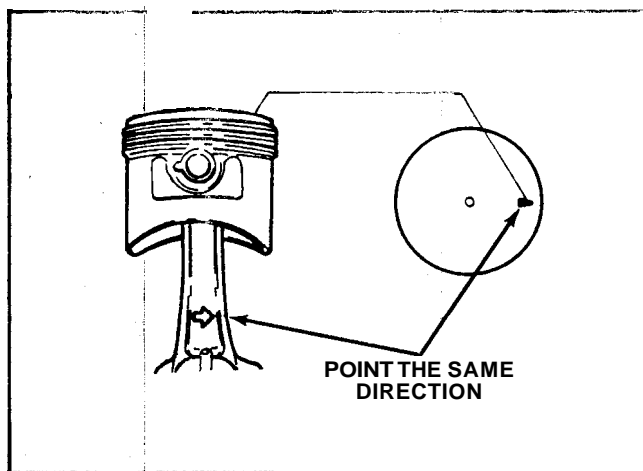

Figure 98
5. Mount the connecting rod to the piston. Lubricate the piston pin with engine oil and retain it in the piston with a circlip on either end. The arrow mark on the head of the piston should point in the same direction as the arrow on the connecting rod for proper installation. See Figure 98.